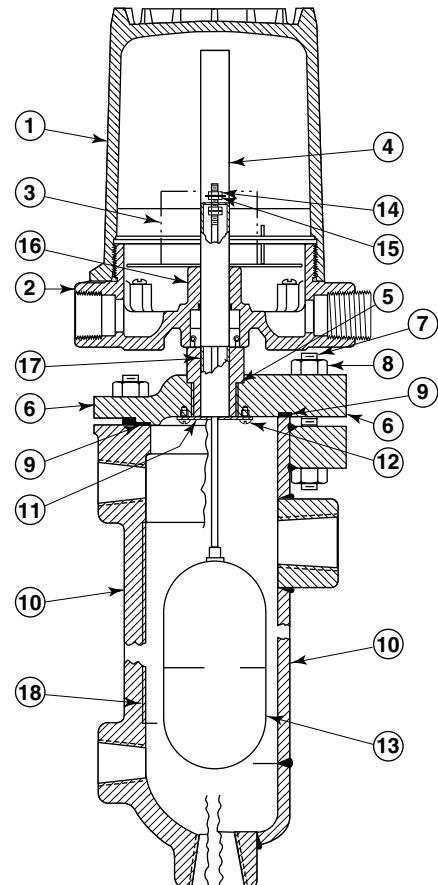

Figure 8
3. Remove switch housing assembly by loosening hex nut, which is located immediately below housing base (refer to **Figure 8**).